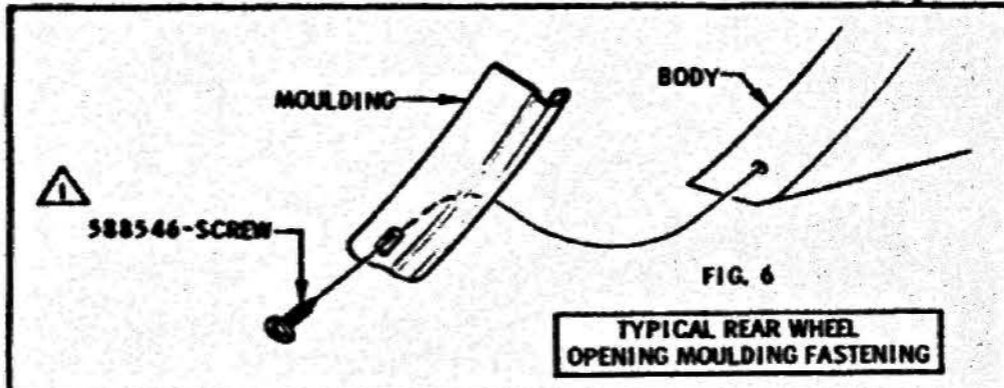

FIG. 6
- SEE FIG. 6 FOR TYPICAL FASTENING